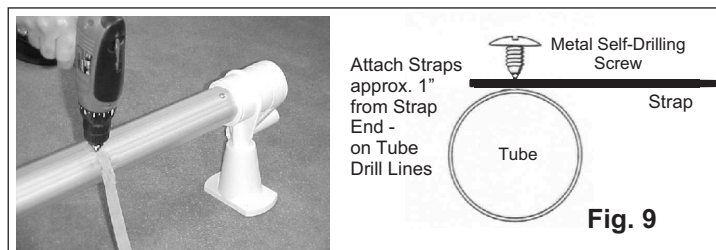

Fig. 9
- Mark each End Tube 6" (15 cm) in from the inside edge of pool top rail. Attach one Strap at each mark on a Drill Line (see Fig. 9). The remainder of the Straps will be spaced evenly - on Drill Lines - between the outside 2 Straps. Mark all strap locations before installing. Use all Straps provided. Note: Maximum distance between straps is 30"
- Attach Straps to Tubes at the marks with a Metal Screw directly through the strap material and approximately 1" back from the end of the strap (see Fig. 9). DO NOT pre-drill holes (a tiny "pilot hole" is acceptable) or over-tighten screw.